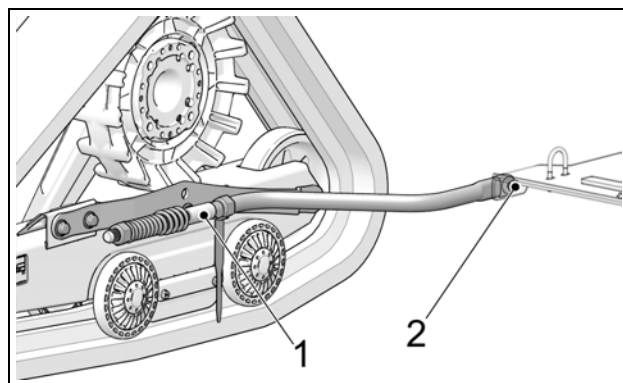

Figure 8
- Stabilizing arm (1) must be attached to Track System and to rear anchor bracket (2) installed on vehicle. See Figure 8.